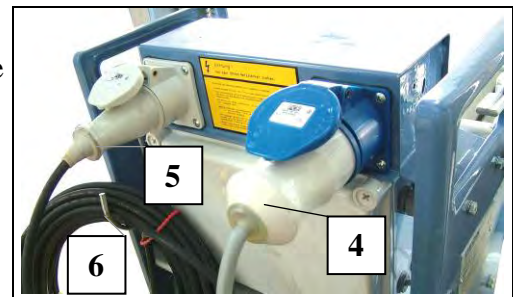

Fig. 32 Plug panel on the winch
- Carefully roll up the excess cable and hang on the hook (Fig. 32 Pos 6). - Otherwise it presents a hazard from catching on something or from the cable being damaged.